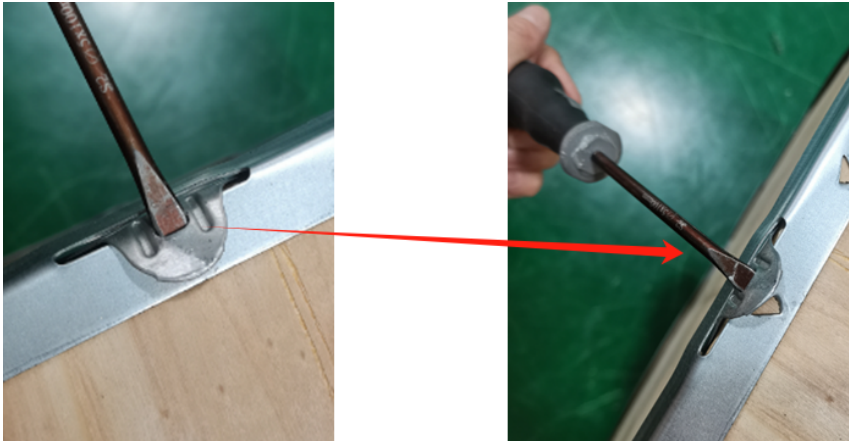

Figure 4
- Turning the spanner (Fig 4) on the specimen clamp can make the jaw in the state of braced and locked.